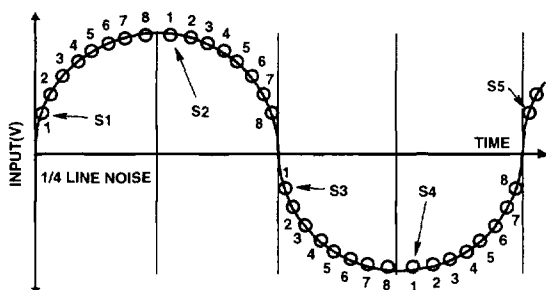

FIGURE 12. LINE NOISE CYCLE INCLUDING PATENTED TIME SPACED INPUT SAMPLING
The HI7188 has the ability to do the same function as the Integrating ADC but samples the input **four** times during the line cycle (see Figure 12). For this discussion, the desired analog input signal will be zero. The HI7188 accomplishes this by instituting a four quadrant, four point running average system. The microsequencer samples all eight inputs at exactly the same point in time and for the exact amount of time for each of the four quadrants of a single line cycle and stores them separately. These four samples are then summed, on a per channels basis, which results in the same answer of the line synchronous noise as with the Integrating ADC.
1. Channel 1 is sampled four times as labeled S1, S2, S3, and S4 in Figure 12. One sample for each 90 degrees quadrant of line cycle (quarter main cycle).